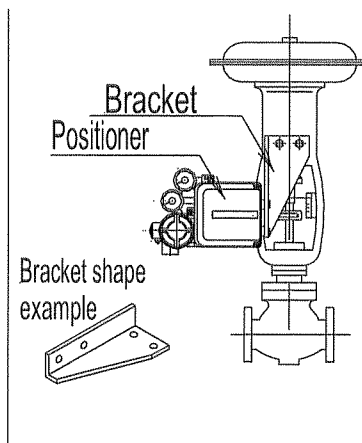

Fig.6 L-shape bracket
When the input current increases, armature (14) receives counter-clockwise rotation torque with leaf-spring (12) of torque motor (13) functioning as the support, counter-weight (4) is pushed towards left, the space between nozzle (6) and flapper (5) opens and the nozzle back pressure decreases. As the result, exhaust valve (7) of pilot valve (1) moves to right, the output pressure of OUT1 increases and the output pressure of OUT2 decreases, starting the rotation of rocking actuator (16). The movement of rocking actuator (16) acts on feedback spring (10) through feedback shaft, cam (8), span adjusting lever (9) and transmission lever (15) and the actuator is balanced at the position where it balances with the force generated by the input current. Fig.6 shows the case of cam DA structure normal actuation (the main shaft of rocking actuator (16) turns clockwise at the time the input current increases). Gain suppression spring (2) is used to immediately feedback the movement of exhaust valve to counter-weight (4) and it increases the loop stability. For zero-point adjustment, change the tension of zero-point adjust spring (3).